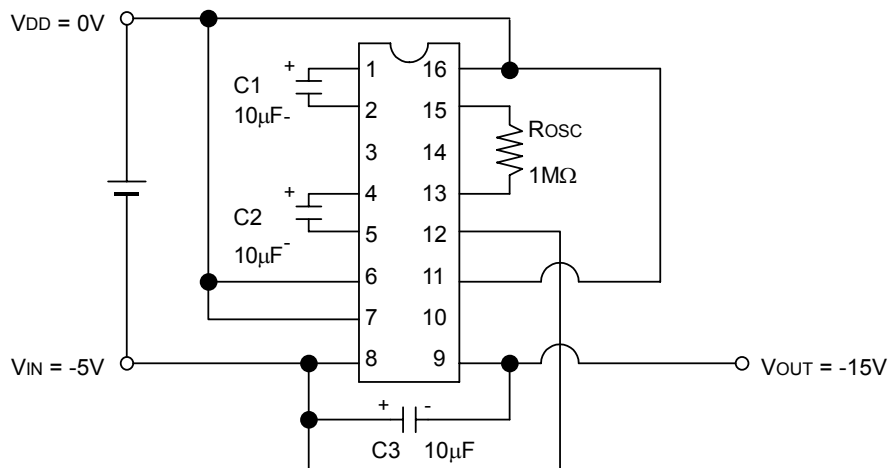
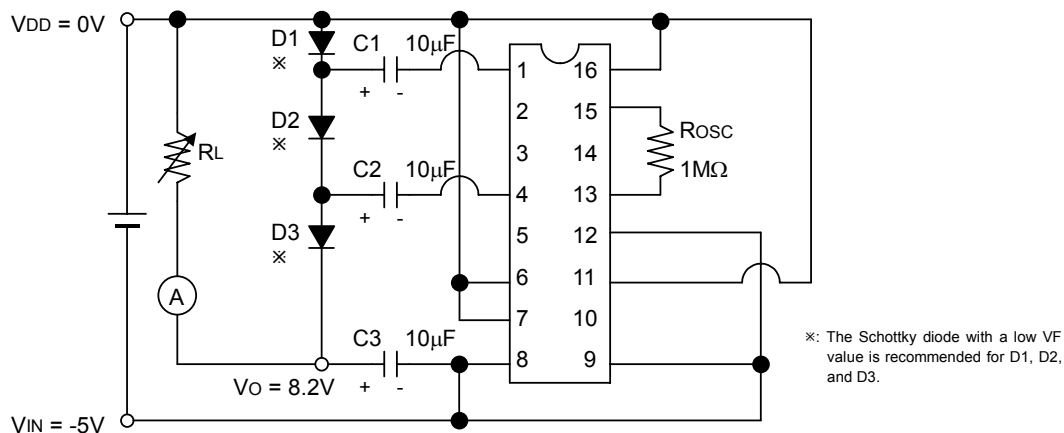

Fig.8.1 Triple boosting
Fig.8.8 Positive-voltage conversion
Fig.8.1 shows a connection example for obtaining the triple boosting output for input voltage by running only the booster. For double boosting, remove capacitor C2 and short between the CAP2- (No.5) and Vo (No.9) pins; double boosting (-10V) is obtained from Vo (CAP2-).
1) Fig.8.1 shows an applied-circuit example for stabilizing the boosting output obtained by double boosting and triple boosting through the stabilizer and providing the temperature gradient to the VREG output through the temperature gradient selection circuit. This applied-circuit example can indicate two outputs from VO and VREG at the same time. Using the double boosting described in item (1) “Double Boosting and triple Boosting” enables double boosting + stabilizer.
The S1F76610 converts input voltage to positive voltage for double boosting or triple boosting through the circuit shown in Fig.8.8. (For double boosting, remove capacitor C2 and short both ends of D3.)
However, output voltage V_O lowers by forward voltage V_F of the diode. For example, as shown in Fig.8.8, $V_{DD} = 0V$; $V_I = -5V$; and $V_F = 0.6V$ results in $V_O = 10V - 3 \times 0.6V = 8.2V$ ($5V - 2 \times 0.6V = 3.8V$ for double boosting).
Combining the triple boosting (Fig.8.1) with the positive voltage conversion (Fig.8.8) generates the circuit shown in Fig.8.9, and outputs -15V and +8.2V from -5V input.